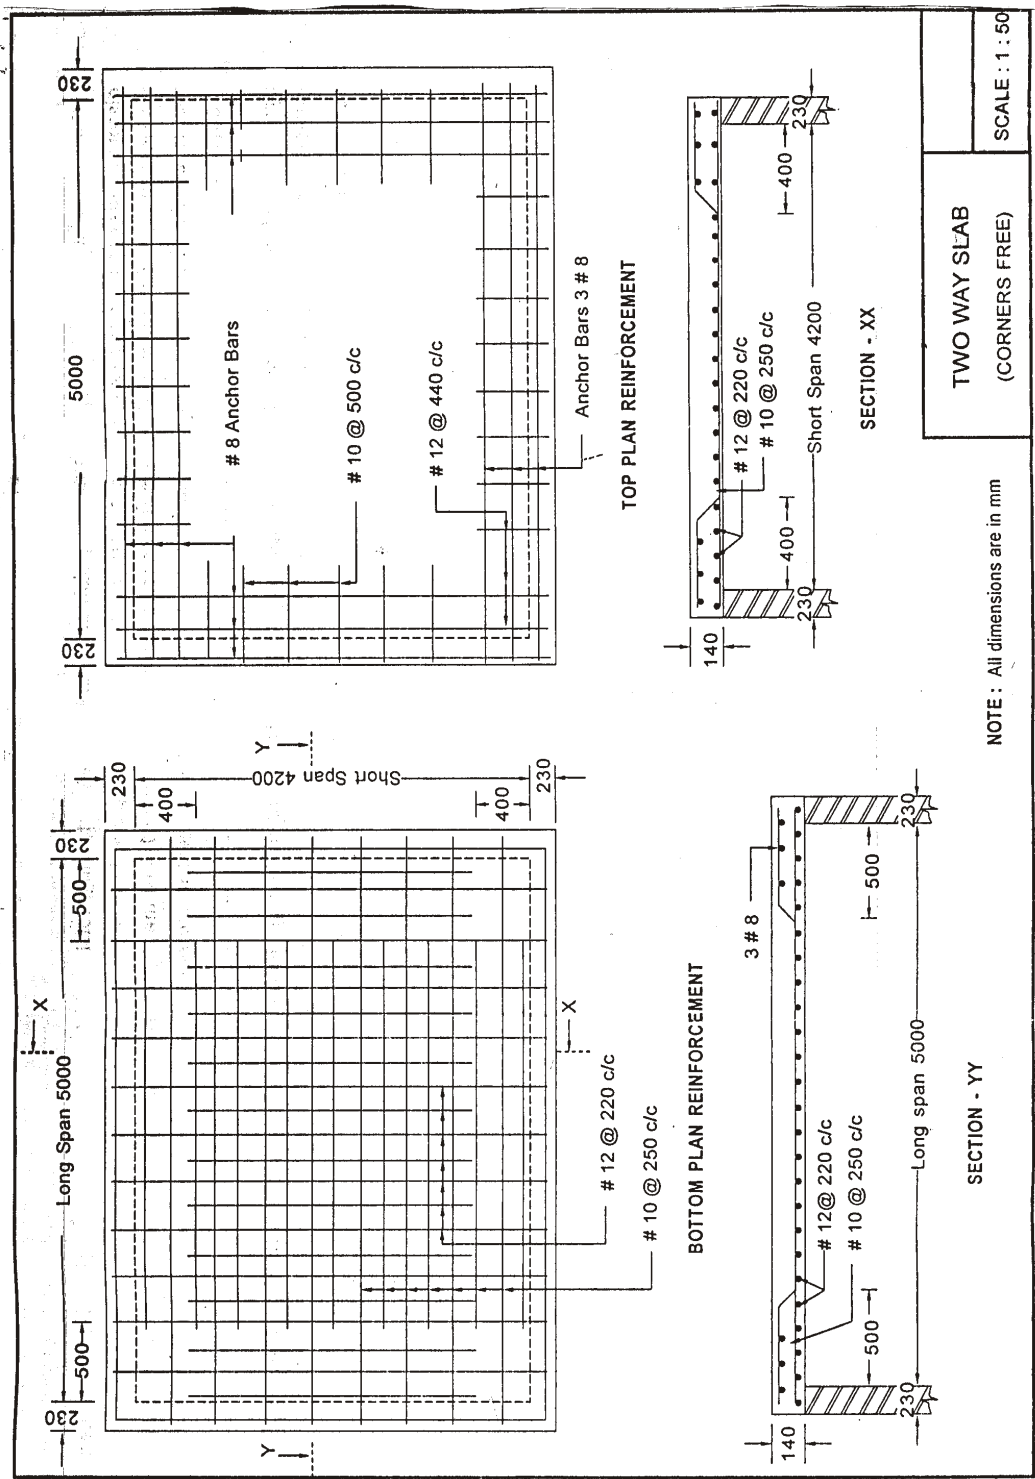

Fig. 3
- 5.** The plan and c/s of two-way slab are shown in Fig. 3 (Page 6). Specify the reinforcement details for the following :